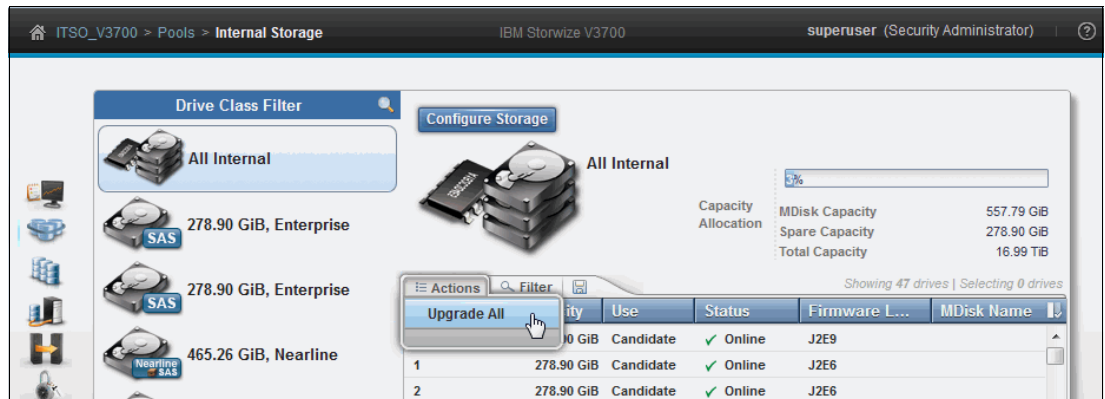

Figure 11-55 Upgrade all drives: Internal Storage pane
- Figure 11-55 shows how to update all drives using the Action menu in the Internal Storage pane. Select **Upgrade All**.